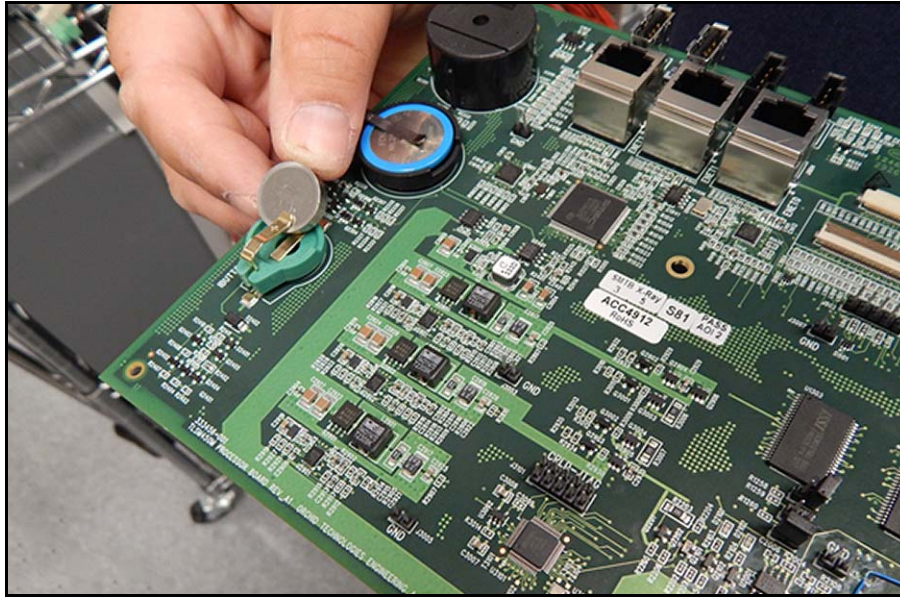
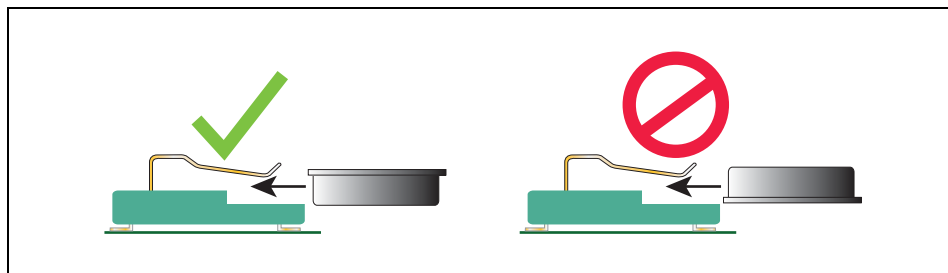

Figure 13. Locating TLS-450PLUS CPU Board iButton
Figure 14. Install iButton Flange Facing Up
17. Locate the iButton on the old TLS-450PLUS CPU board. Remove the iButton from the old CPU board and install it in the empty socket on the new TLS-450PLUS CPU board (see Figure 13). Make sure the flanged side of the iButton is facing up in its socket (see Figure 14).